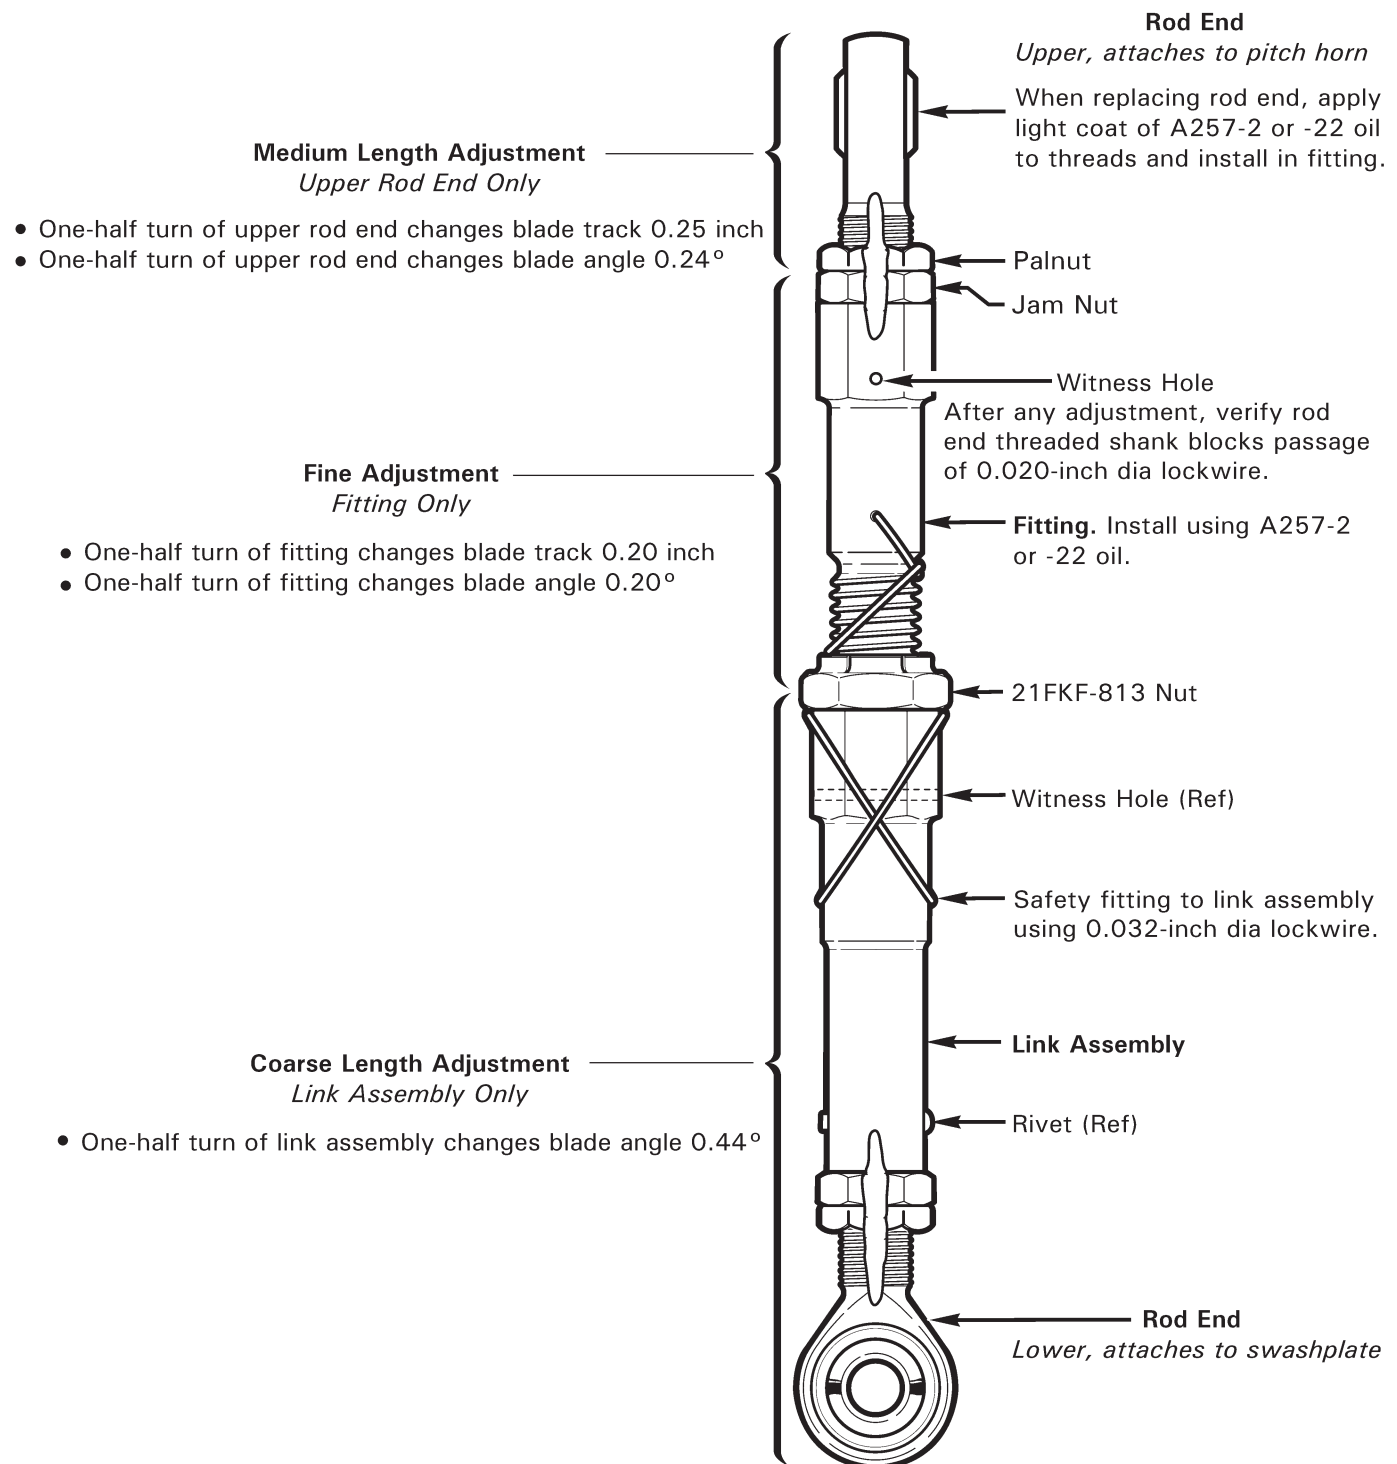

FIGURE 18-3B C258-1 MAIN ROTOR PITCH LINK
- i. Refer to Figure 18-3B. Cut and discard pitch link assembly safety wire. Using backup wrench on link assembly, loosen 21FKF-813 nut; using backup wrench on fitting, loosen upper rod end palnut and jam nut.
- i. Refer to Figure 18-3B. Cut and discard pitch link assembly safety wire. Using backup wrench on link assembly, loosen 21FKF-813 nut. Remove hardware securing lower rod end to swashplate.